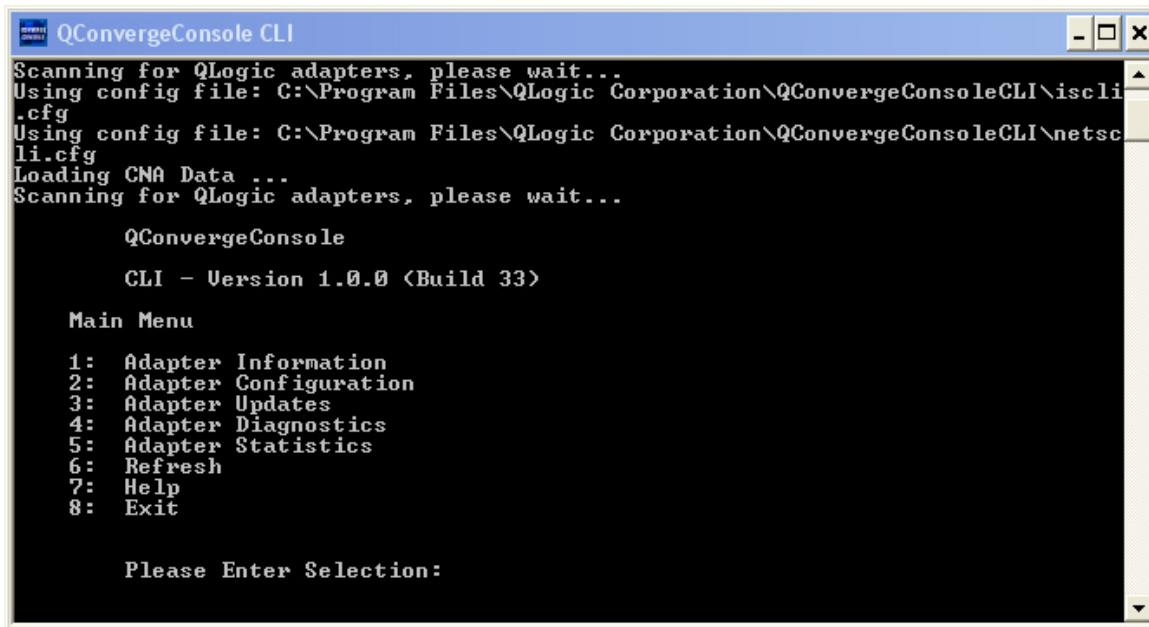

Figure 6-3. Main Interactive Menu
3. Navigate through the menu options in the main interactive menu (Figure 6-3) by typing the option number. The CLI detects QLogic adapters in the local server and displays a list of options, including support for advanced features such as VLANs and teaming. For detailed instructions about using the QConvergeConsole CLI, refer to the *QConvergeConsole CLI Users Guide*, which is available at <http://driverdownloads.qlogic.com/>.